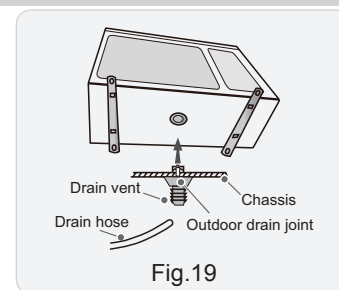

Fig.19
- (1) Connect the outdoor drain joint into the hole on the chassis.
- (2) Connect the drain hose into the drain vent. (As show in Fig.19)